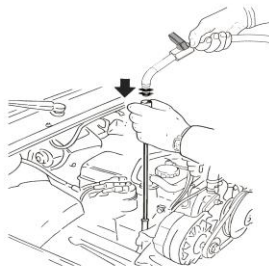

Fig. 3
2. Insert the end of the probe into the engine oil inlet hole of the engine.(Fig.3)